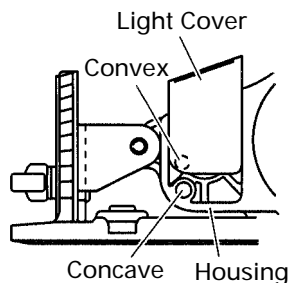

Fig. 21 (Side View)
- (1) Remove the convex part of the light cover from the concave part of the housing, and then pull out the light cover in the arrow-marked direction as shown in Fig. 21.